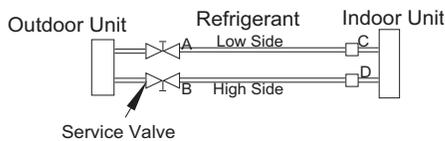

Fig. 18 – Service Valve
1. Completely tighten flare nuts A, B, C, D, connect manifold gage charge hose to a charge port of the low side service valve. (See Fig. 18)